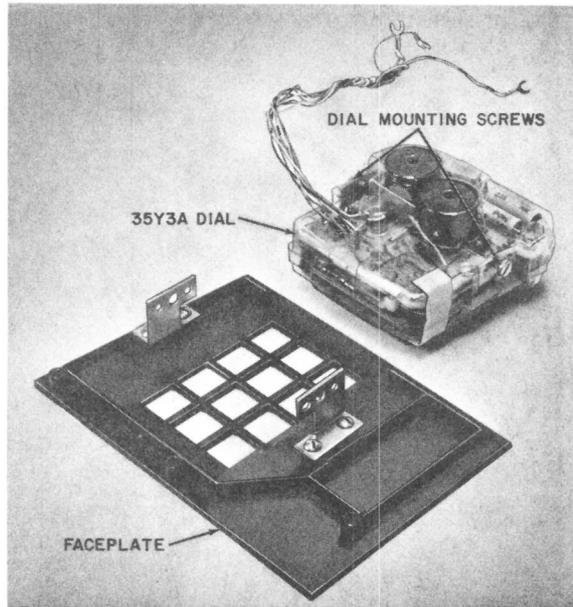
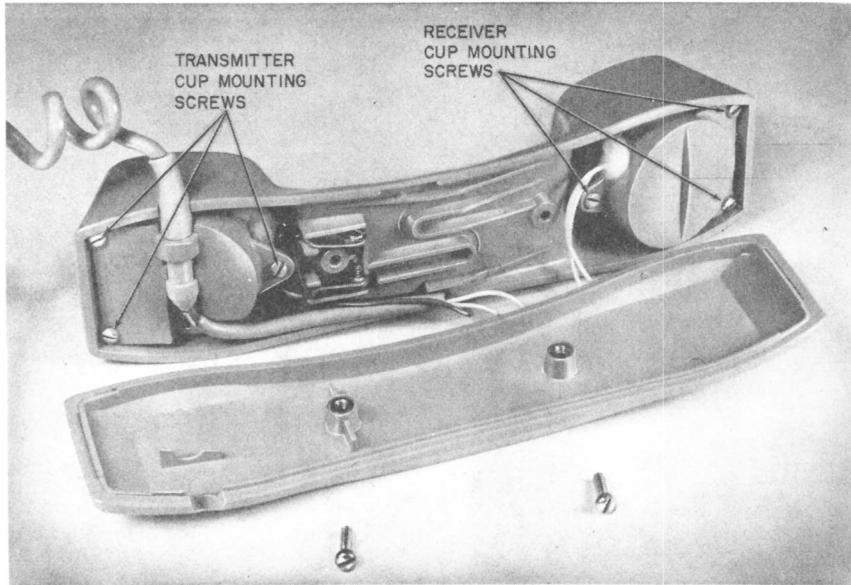

Fig. 12—TOUCH-TONE Dial Removed From Faceplate
Fig. 13—Removing Transmitter and Receiver Cups From Handset (A Code Sets Only)
(9) Open handset by removing two screws (Fig. 12) and remove transmitter and receiver cups. Remove T1 transmitter and U3 receiver units (Fig. 13).
(10) Replace transmitter and receiver cups and restore handset cover.